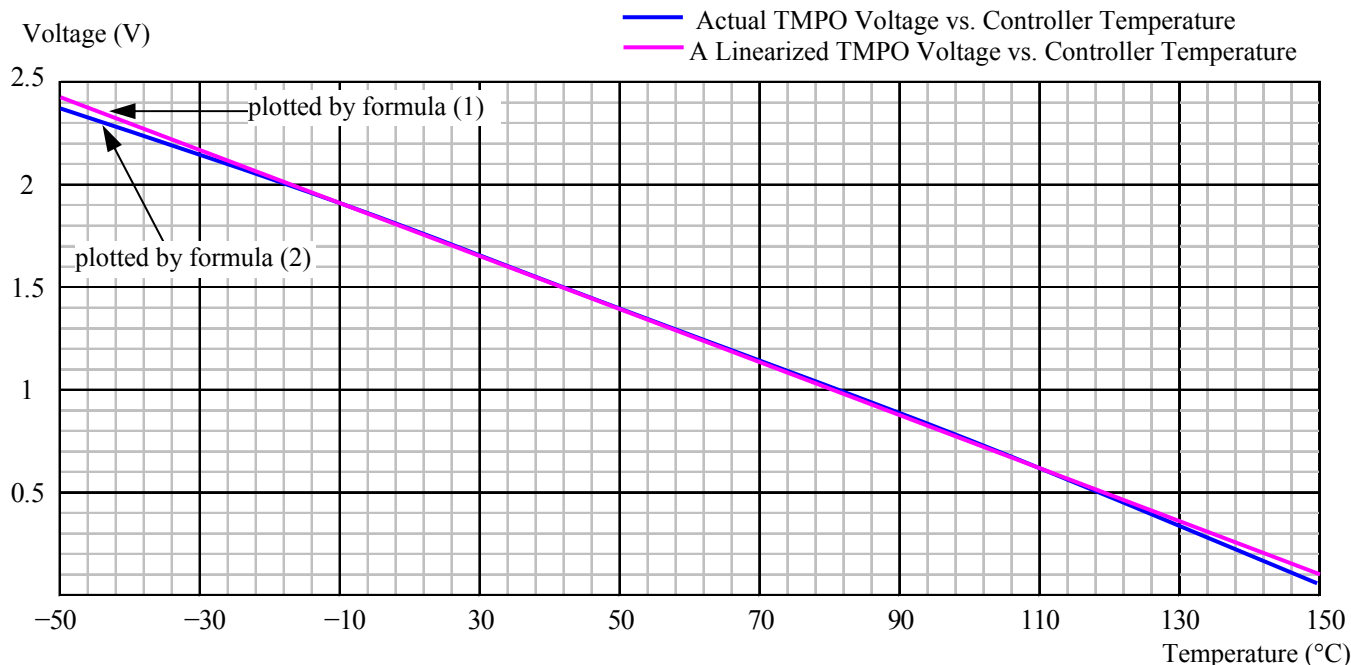

Figure 15. Controller Internal Temp vs. TMPO Voltage
Within the most commonly used temperature range of between $0^\circ C$ to $100^\circ C$, the maximum error occurs at about 1.5V, at which the temperature error between the calculated data by using the formula (1) and the approximated data obtained by using the linear equation (2) is about $0.4^\circ C$, with the linear data being a little lower. The curves of the 2 sets of the data are plotted in Figure 15.